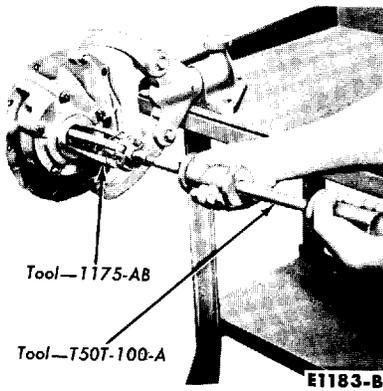

FIG. 11—Pinion Seal Removal
6. Using the tool shown in Fig. 11, Part 6-2, remove the drive pinion flange oil seal.
8. Remove the seal (Fig. 11) and the slinger.